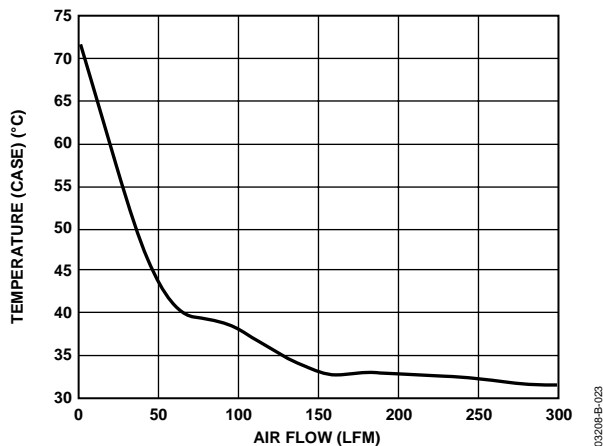

Figure 15. Temperature (Case) vs. Air Flow (Ambient)
- The unit rises to ~72°C (T_C) on the heat sink in still air (0 linear feet per minute (LFM)). The minimum recommended air flow is 100 linear feet per minute (LFM) in either direction across the heat sink (see Figure 15).